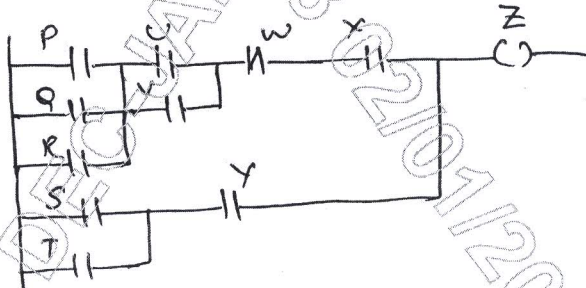

Fig Q3(a)
- 3 a. Convert the given ladder diagram in Fig. Q3(a) to function block diagram and write the boolean expression (06 Marks)